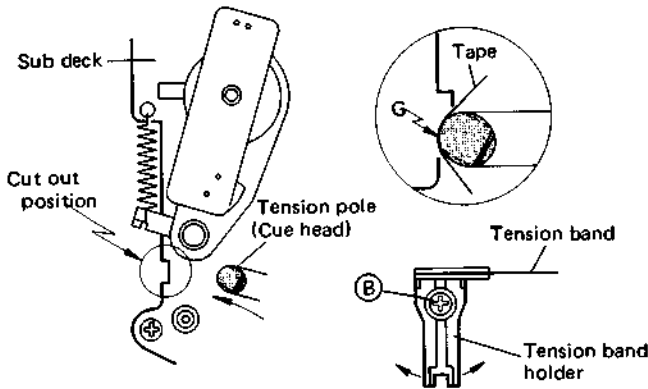

Fig. 4-22 Tension pole (cue head) position adjustment
1. While the tape is running, check that point G of the cue head (tension pole) is positioned within the 0.5 mm range shown in Fig. 4-22.
2. If necessary, loosen screw (B) and adjust the tension band holder to obtain the correct tension pole position.